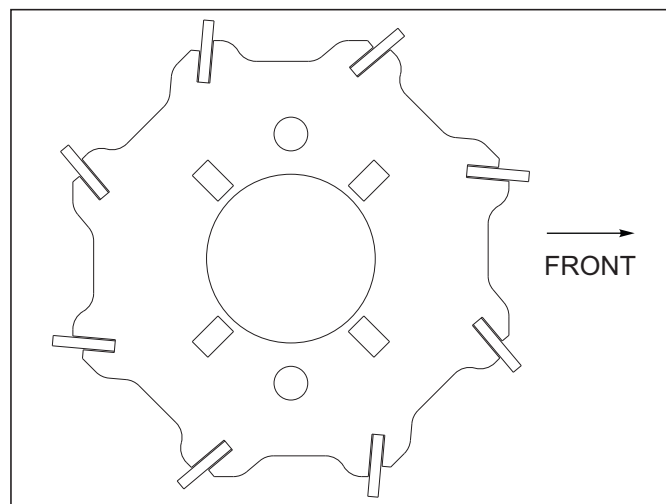

Figure 4-16: Flat Reel
5. The 12" diameter reel consists of nine 3/4" diameter round bars with a chevron shape for smoother rotation. The reels have no inner shaft to reduce plugging in wetter conditions. The reels operate independently of the 3 row spike with two spring loaded arms per reel to maintain consistent down pressure. Install the round bar chevron reels with the chevron direction matching typical tractor tire direction. A 12" diameter spiral wound reel with 1/4 x 1-1/2 angled blades is also available. The blades on flat bar reels are angled for more aggressive action. Install the reels as shown See Figure 4-16.